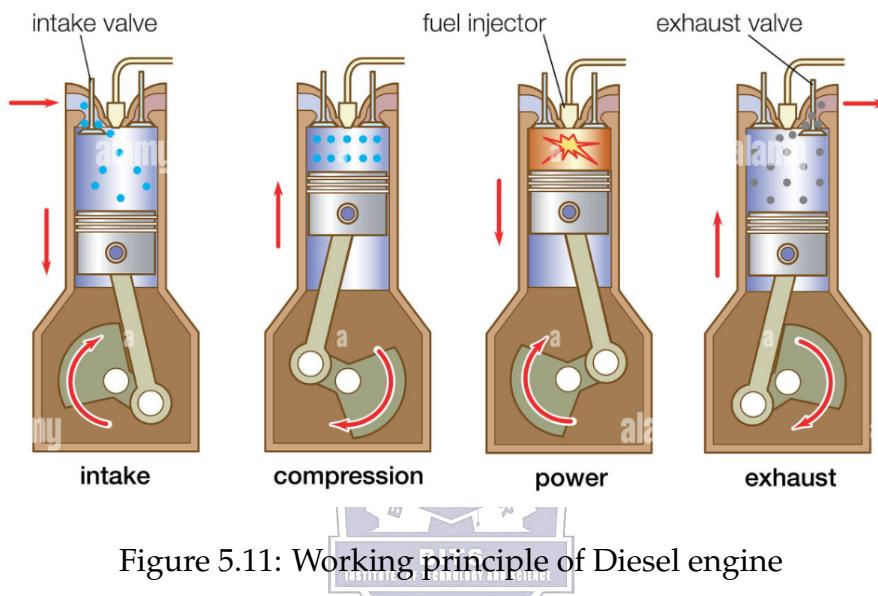
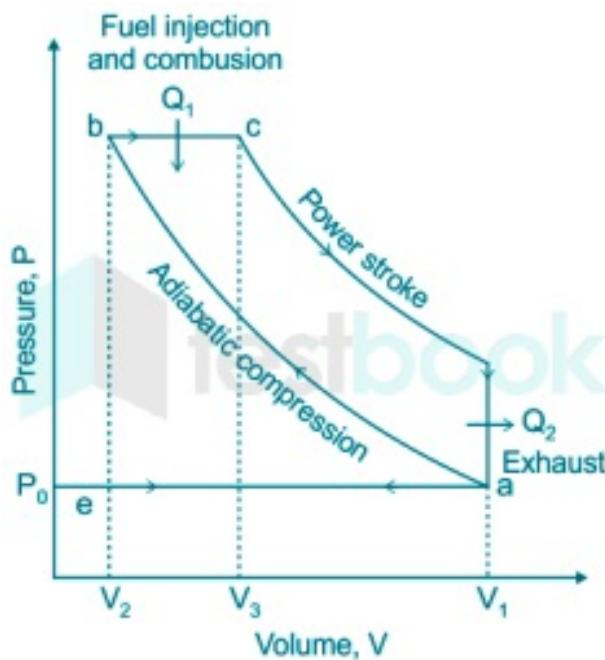

Figure 5.11: Working principle of Diesel engine
Figure 5.12: PV diagram of diesel cycle
The working principle of Diesel engine is described in Fig. 5.11. The Diesel cycle can be represented on a pressure-volume (PV) diagram, as shown in Fig. 5.12.